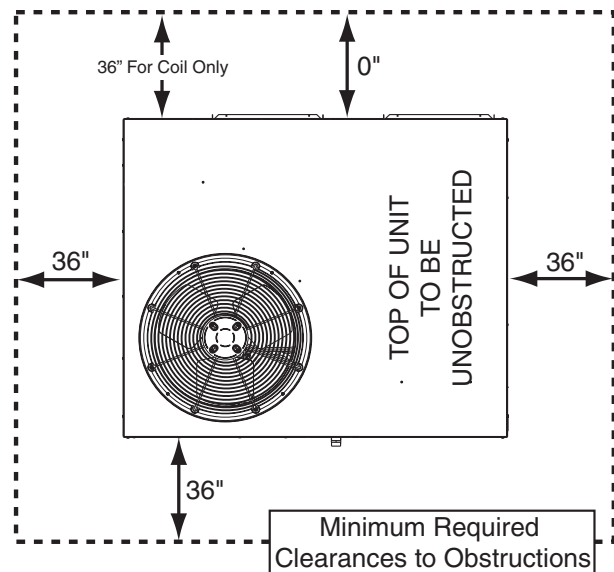

Figure 2. Clearance Requirements
- Sufficient clearance for unobstructed airflow through the outdoor coil must be maintained in order to achieve rated performance. See Figure 2 for minimum clearances to obstructions.
Q104SD units are certified as combination heating and cooling equipment for outdoor installation only. Figure 2 (page 6) displays the minimum clearances to obstructions for both downflow and horizontal discharge.
- Clearances must be in accordance with those shown in Figure 2. Also consider clearances for access to the internal filter.